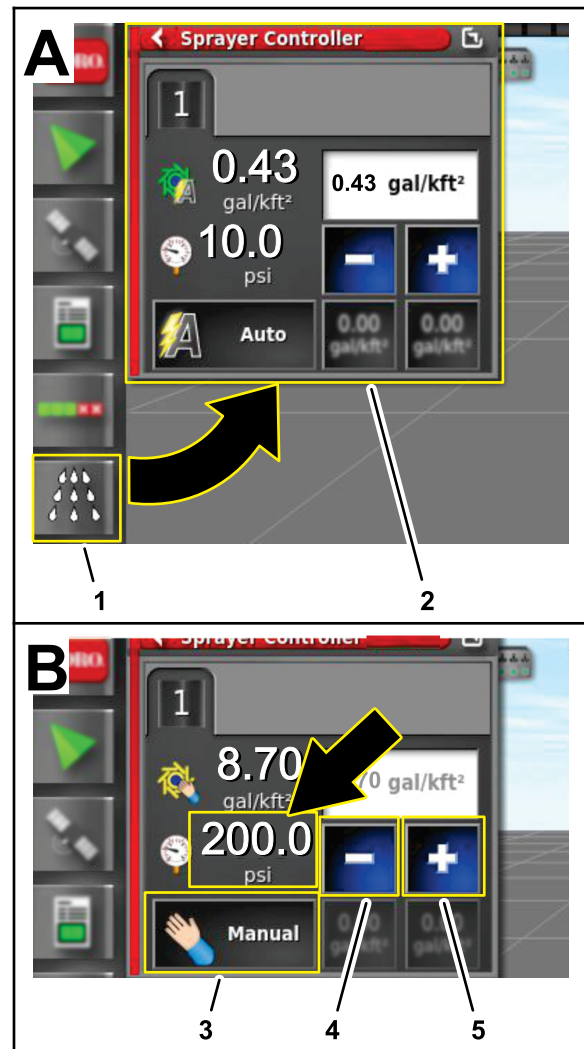

Figure 198
4. On the GeoLink control console, press the SPRAY RATE CONTROLLER icon (Figure 198).
5. In the spray rate controller dialog box, press the RATE CONTROL MODE icon until manual mode displays (Figure 198).
6. Use the decrement icon (-) or increment icon (+) to adjust the spray system pressure (Figure 198) to 13.75 bar (200 psi).